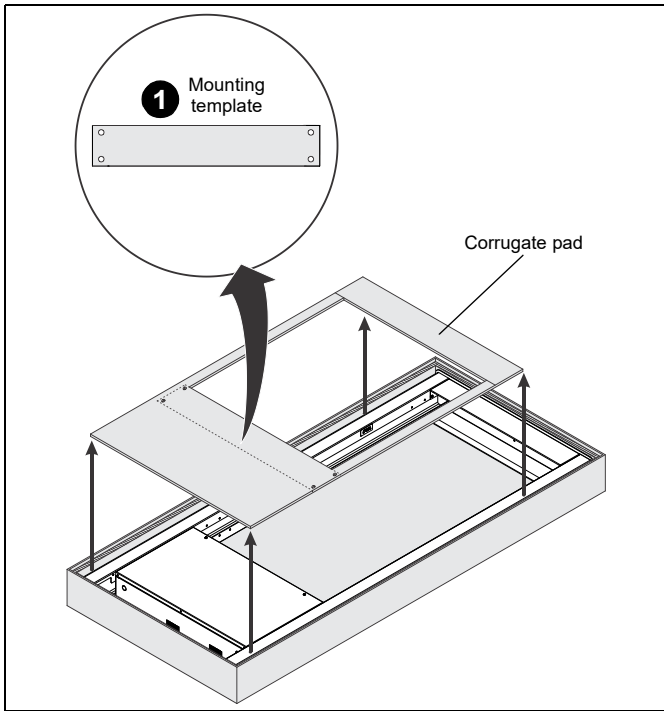

Figure 1
1. Before removing components from package, carefully set aside the top corrugate pad and remove the perforated template from the pad. (See Figure 1)